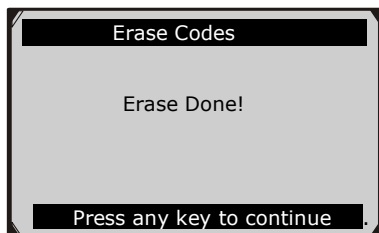

Figure 6.8
- If the codes are cleared successfully, an “Erase Done!” confirmation message shows on the display.(Figure 6.8)